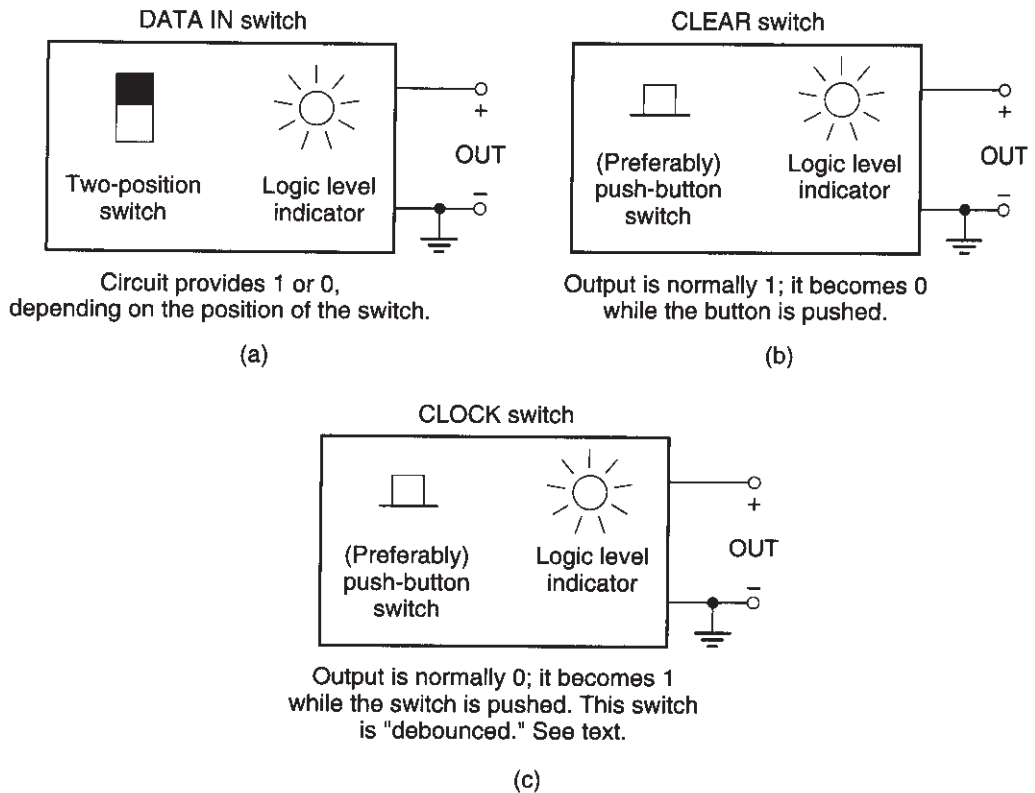

Fig. 1
1. **DATA IN switch:** When we need voltages that correspond to a logic 1 or 0, and when the device to which these are fed is *not* sensitive to the details of the *transition* between these two levels, we can use the *data in* switch shown in Fig. 1(a). Depending on the position of the switch, a logic 1 or 0 appears at its output and *stays* there until the switch position is changed. An LED logic level indicator should be connected to the switch output; this indicator will normally be available on your digital experimentation breadboard. Verify the operation of the circuit by flipping the switch back and forth and observing the indication of the LED.
2. **CLEAR switch:** The *clear* switch in Fig. 1(b) provides a signal that is normally a logic 1. When the push-button switch is pushed, the output becomes a logic 0. As soon as the switch is released, the output goes back to its normal logic 1. *If the switch*
3. **CLOCK switch:** The *clock* switch in Fig. 1(c) has an output that is normally 0 and becomes a “clean” 1 for as long as the switch is pressed.1 If your *CLOCK* switch is a two-position one, maintain it at the logic 0 position; when you are asked to push (and release) the clock button in the description that follows, move the switch to the logic 1 position and then back to the logic 0 position. As before, an LED indicator should be connected to the output of the switch. Test the operation of this circuit.